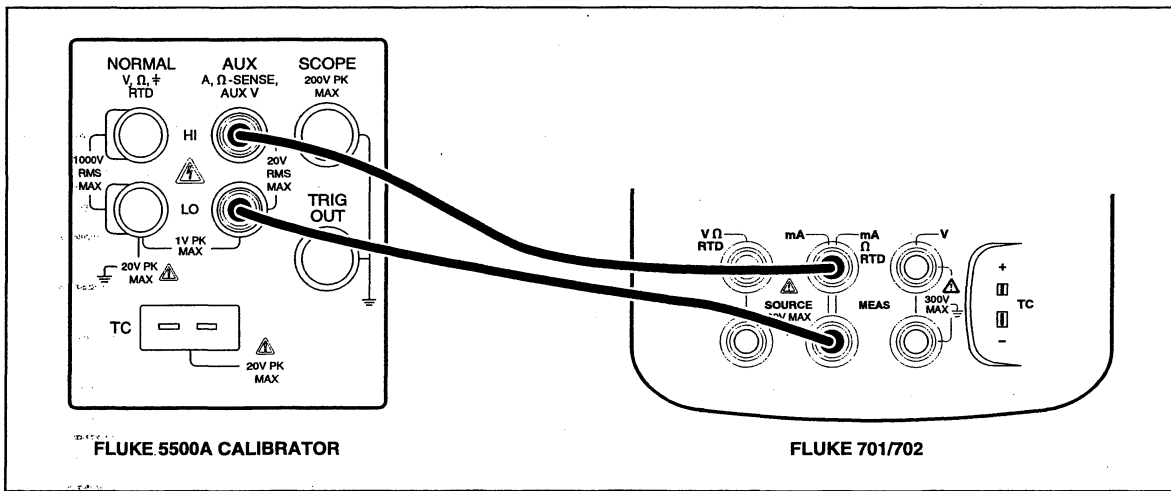

Figure 3-2. DC Current Measurement Verification Connections
1. Connect the UUT to the 5500A as shown in Figure 3-2. Disconnect the jumpers from the three lows if they are present.